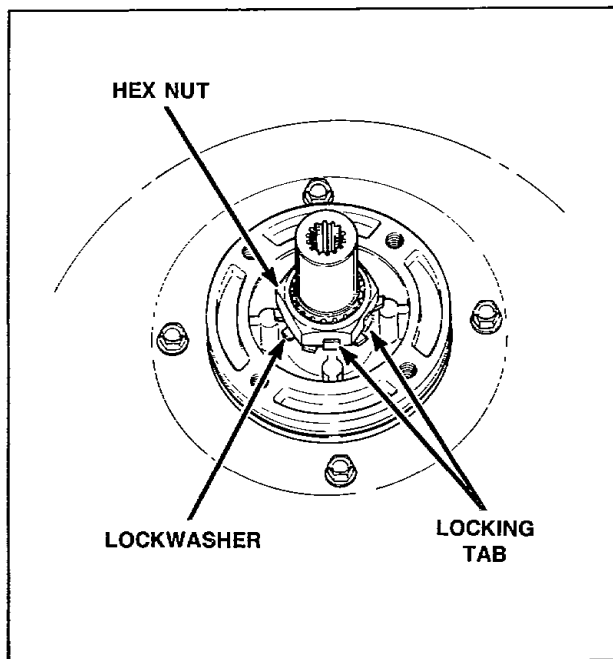

Figure 41
- h. Straighten bent tab(s) on lockwasher, *Figure 41*, then remove hex nut using No. 237P4 Hex Wrench.
- g. Carefully place the new hub assembly on splined transmission tube and install lockwasher and hex nut, *Figure 41*.
IMPORTANT: Torque hex nut down between 40 to 70 foot pounds (54.23 to 94.91 N-m). If torque wrench is not available, tap hex wrench with a hammer until hub turns or until nut will no longer tighten. After nut has been tightened, bend at least two locking tabs on lockwasher into place on hex nut, *Figure 41*.